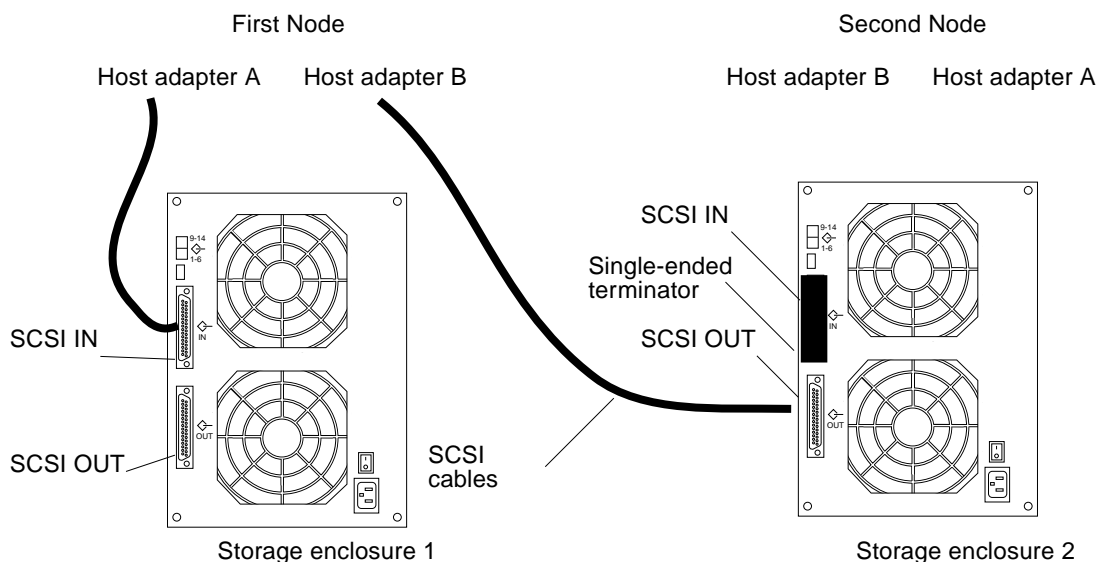

FIGURE 4-2 Example of a StorEdge MultiPack Enclosure Mirrored Pair
4. Connect the single-ended SCSI cable between the node and the StorEdge MultiPack enclosures, as shown in FIGURE 4-2.
5. Temporarily install a single-ended terminator on the SCSI IN port of the *second* StorEdge MultiPack enclosure, as shown in FIGURE 4-2.